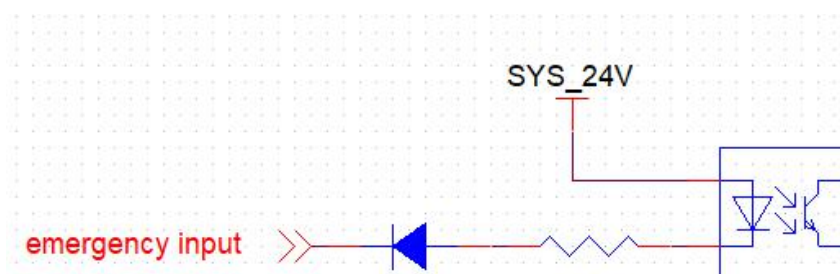

Figure 2-5
- See Figure 2-5 for the logic diagram of emergency stop input.